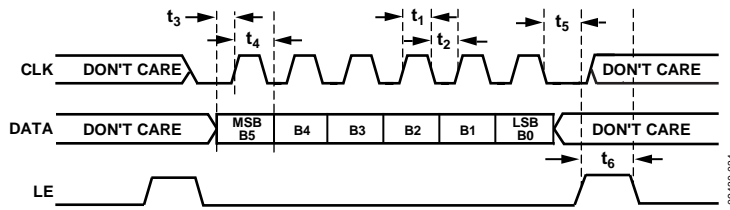

Figure 35. SPI Timing Diagram (Data Is Loaded MSB First), Serial Mode
Table 5 provides details about the timing characteristics for the SPI signals—namely, the clock (CLK), latch enable (LE), and data (DATA) signals—and Figure 35 shows the corresponding SPI timing diagram.